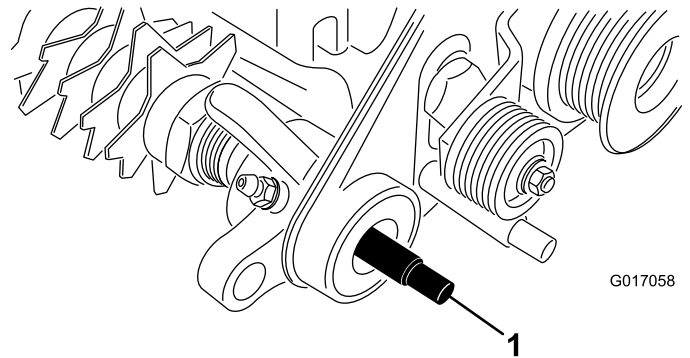

Figure 5
11. Apply grease to the seals in the drive assembly bearing support and to the end of the groomer shaft (Figure 5).
12. Slide the splined end of the groomer shaft into the drive assembly bearing support (Figure 5).